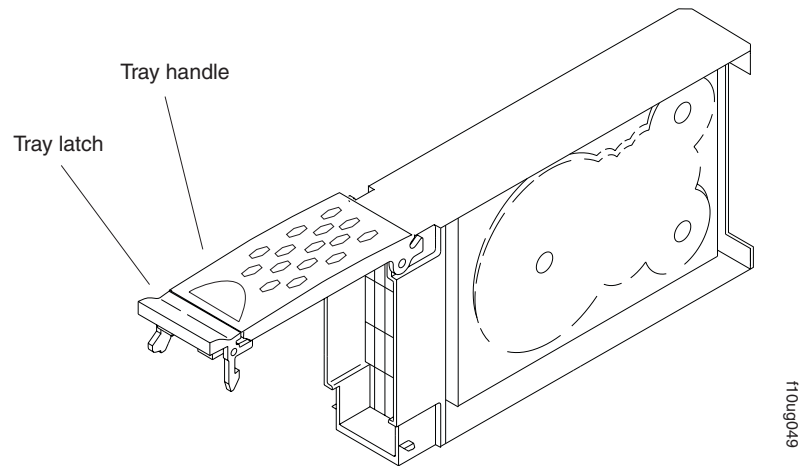

Figure 63. Drive CRU handle
- b. Pull the handle on the tray out so that it is in the open position, as shown in Figure 63.
- a. Release the latch on the drive CRU by pinching together the blue line on the tray latch and the finger hole on the tray handle, as shown by the arrow in Figure 63 on page 82.